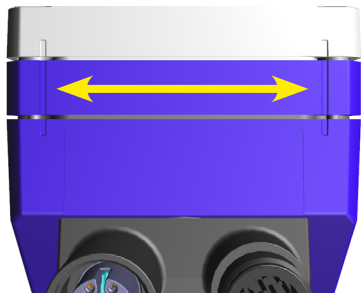
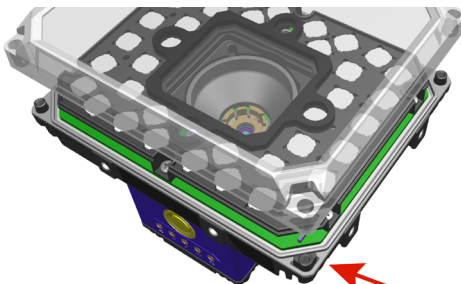

Fig. 3 - Aligning the cover (14 LEDs model)
Fig. 4 - Aligning the cover (36 LEDs model)
**CAUTION:** The cover has a predefined mounting direction (see Fig. 3 and Fig. 4). For the 14 LEDs model (Fig. 3), make sure to align the identification grooves to the right side. For the 36 LEDs model (Fig. 4), the illuminator has one pin different from the other three: make sure to align this special pin with the correspondent cover seat.